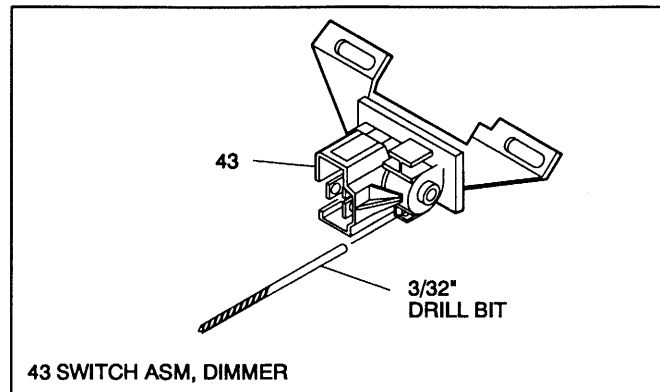

Figure 19 - Adjusting Dimmer Switch
- Dimmer switch (43). (See Figure 19)
- B. Position switch on column and push against dimmer switch rod (45) to remove all lash.